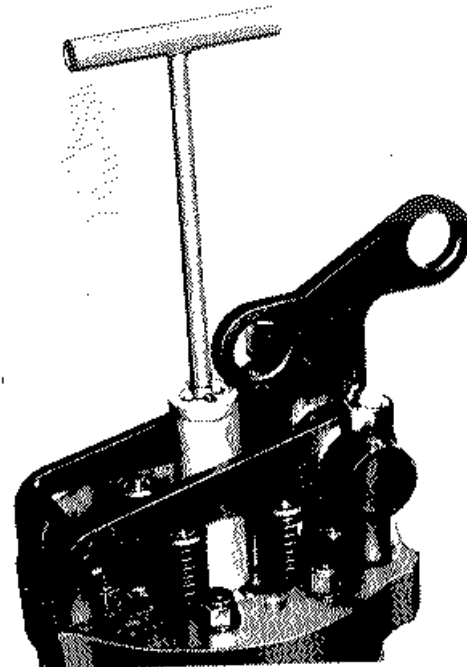

Fig. 5-29 - Piston Holding Tool Application
10. Remove the rag from the injector well and apply the piston holding tool, Fig. 5-29.